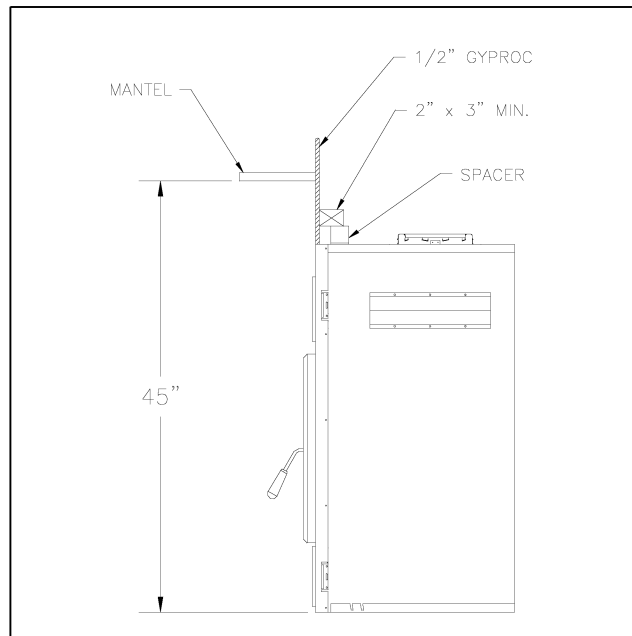

Figure 12
1. Combustible material must be installed flush with the fireplace. It may not project in front of and on the fireplace (i.e. the steel façade of the fireplace) (figure 12).
The mantel must be installed at least 45" (1143 mm) above the base of the fireplace (figure 12).